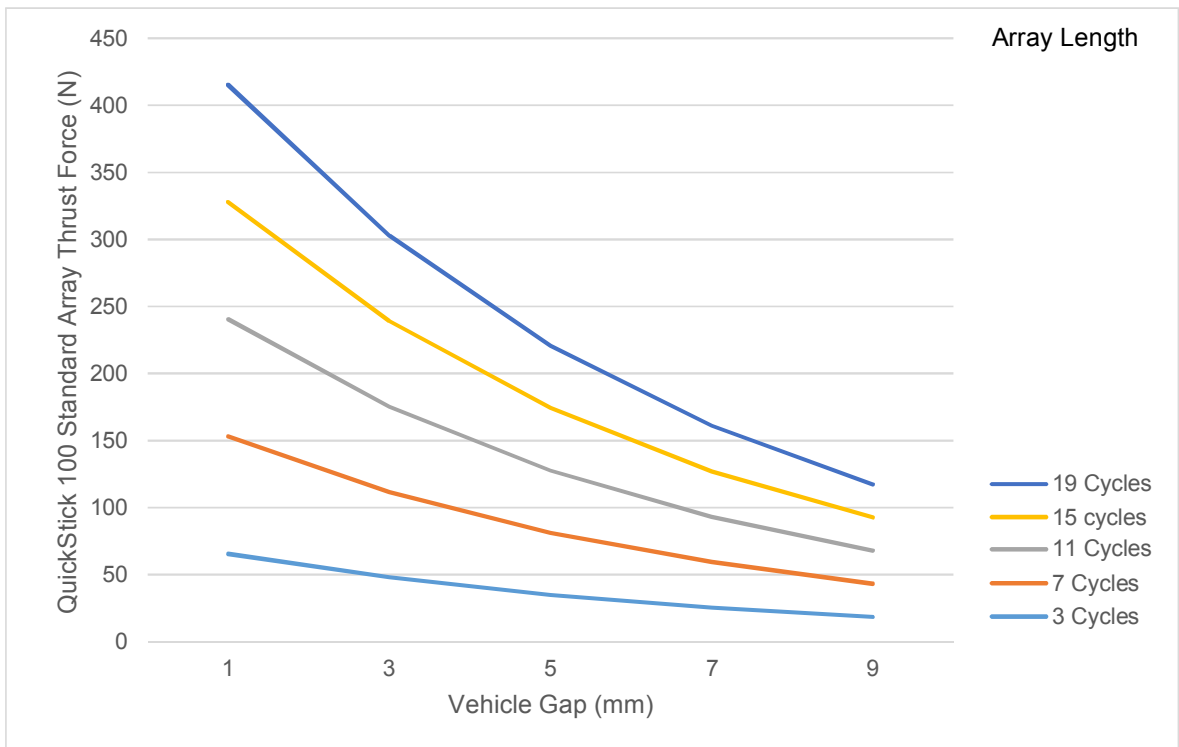

Figure A-2: Thrust Force vs. Vehicle Gap, Standard Magnet Array
- The thrust that is produced decreases roughly in an exponential fashion as the gap between the motor and the magnet array is increased (see Figure A-2).